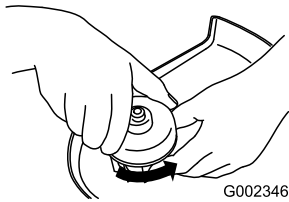

Figure 12
1. Twist the cap off counterclockwise (Figure 12).